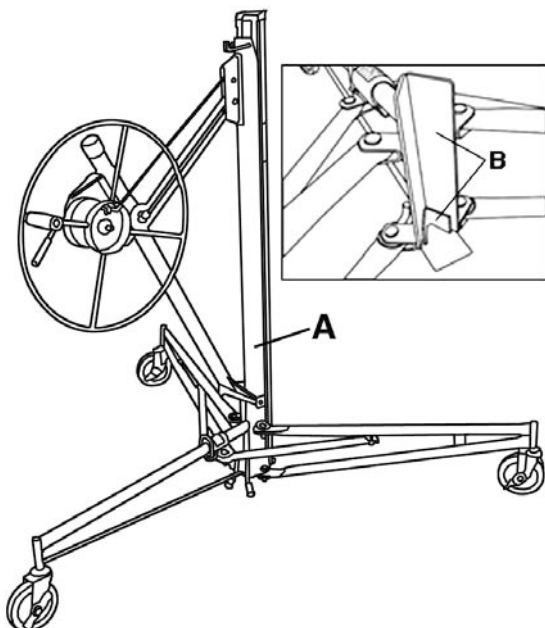

FIGURE 4
1) Install the telescopic frame (A) Fig.4 onto the "V" angles (B) on the tripod base and lower the frame about 1" until it is secured by the angles.